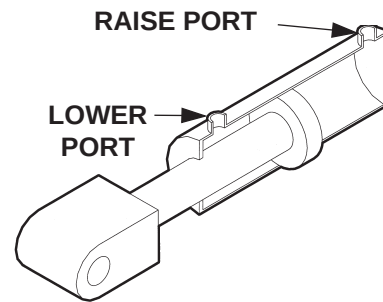

FIG. 51-1
5. Check the Hydraulic Cylinder. With the Platform on the ground, remove the hydraulic line from the Lower Port of the Cylinder (**FIG. 51-1**). Raise the Platform even with the bed. Allow pump motor to run two seconds more while you watch for hydraulic fluid at the Lower Port. A few drops of hydraulic fluid escaping the port is normal; however, if it streams out, Piston Seals are worn. Replace Seals.